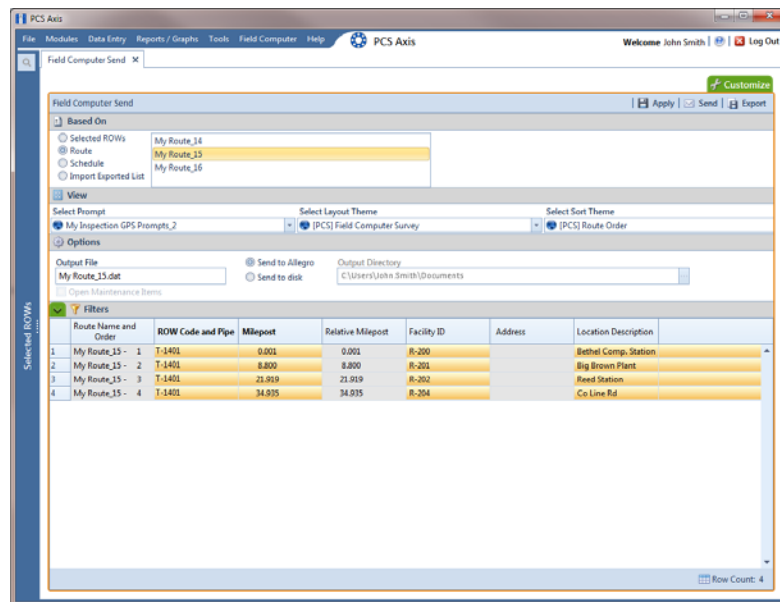

Figure 8-35. Field Computer Send
- 18 Click the **Route** option and select a route in the selection box. Then click  **Apply** to update the grid (Figure 8-35).
- a Click the  **Filters** tab to open the *Filters* panel (Figure 8-35, page 386).